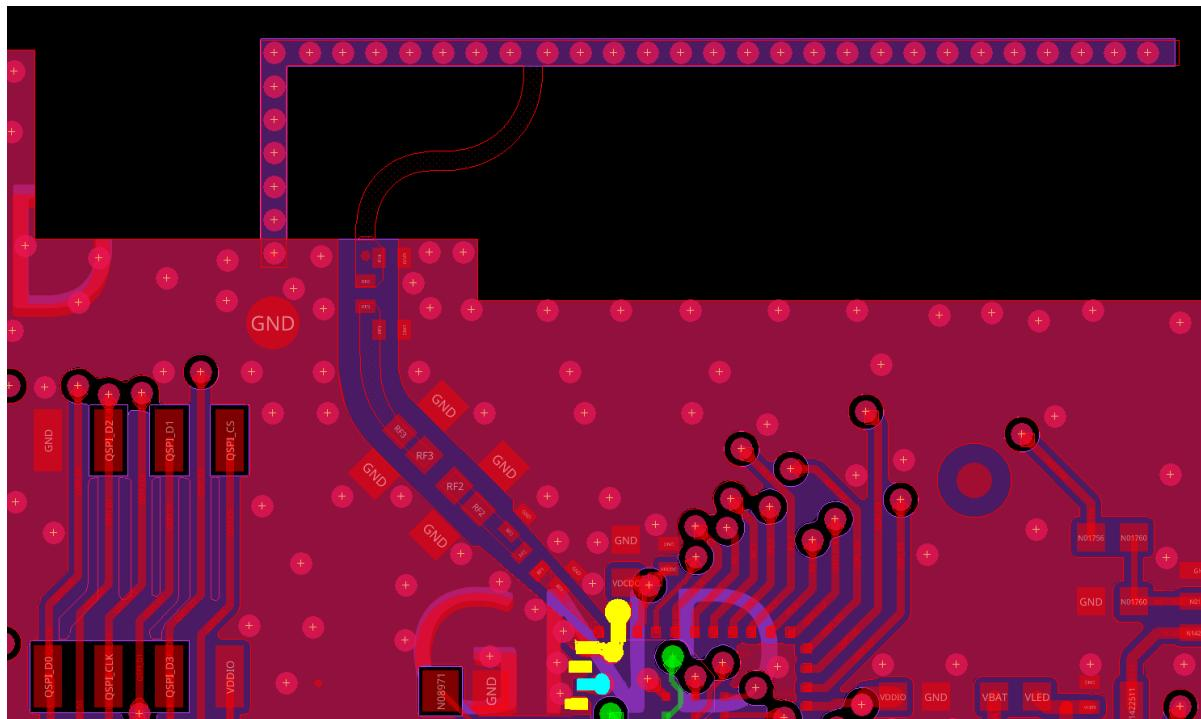
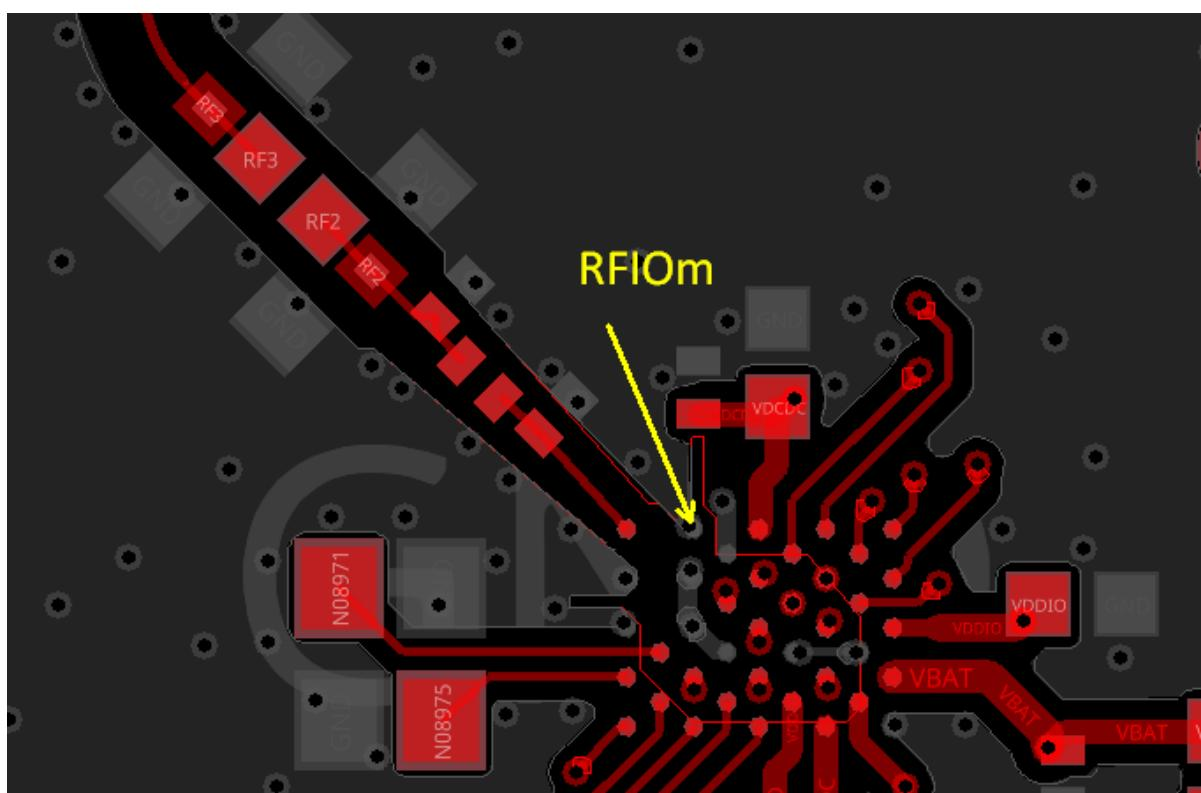

Figure 19. FCQFN52 RFIO routing and RFIOm grounding
Figure 20. WLCSP39 RFIO routing and RFIOm grounding
- It is important to properly route the RF strip line to the antenna. The design of RF GND is also important. See Figure 19 and Figure 20.
- FCQFN52: RFIOm (#39), PSUBFE (#1) and GND/IF (#2) are connected to the same ground at top layer and to the inner ground plane L2: highlighted in yellow. Grounding the RFIOm pin separately by using a via to the ground plane is also a good strategy. DCO GND (#3) is grounded to the ground plane using a separate via: highlighted in light blue. See Figure 19.
- WL CSP39: RFIOm (#A3) is grounded directly to the top layer ground and to the inner layer grounds L2 and L3. PSUBFE (#C1) and GND\_DCO (#E1) are grounded to the top layer ground using their own ground connection. Additionally, GND\_IF (#C3), GND\_XTAL (#E3), and GNDA (#F4) are shorted to each other on the top layer and grounded to the ground at L3. The top layer (L1) ground is connected to the inner ground layers. See Figure 20.
In Figure 19, the top layer copper (L1) is colored red, the inner ground layer copper (L2) is colored purple/blue.
Figure 20 shows the top layer copper (L1) only.